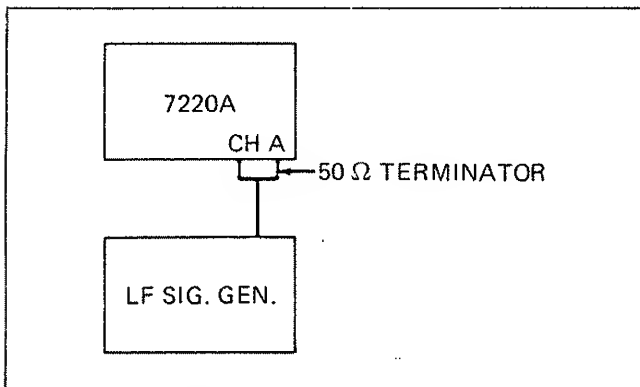

Figure 4-6. Crosstalk Check
1. Connect the 7220A and test equipment as illustrated in Figure 4-6.